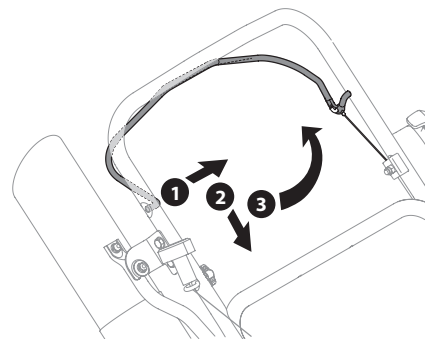

Figure 18
1. Push the right side of the control out of the right hole in the upper handle. See 1 in Figure 18.
2. Pivot control down towards the lower handle. See 2 in Figure 18.
3. Pivot straight up to remove it from the left hole in the upper handle. See 3 in Figure 18.